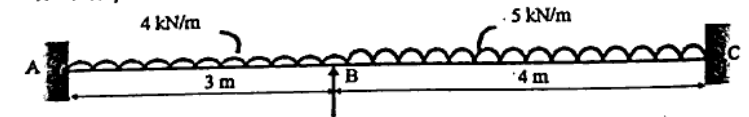

Fig. 3/चित्र 3
3. a) Analyse the two span continuous beam shown in Fig. 3. By slope deflection method. Also draw bending moment diagram.